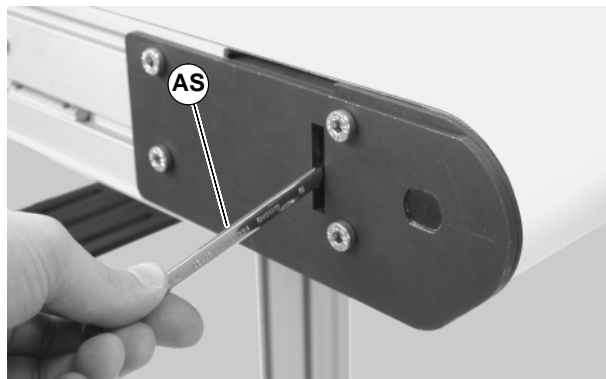
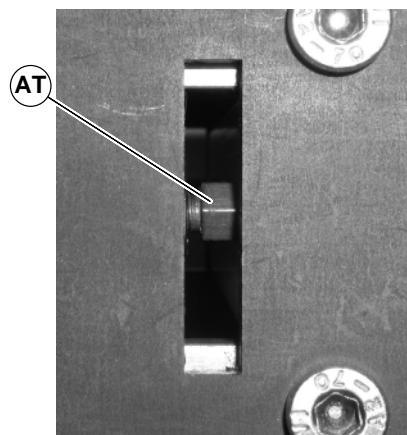

Figure 30
Figure 31
3. With the conveyor running, use wrench (AS of Figure 30) to rotate the tracking screw (AT of Figure 31) in small increments until the belt tracks in the center of the conveyor.